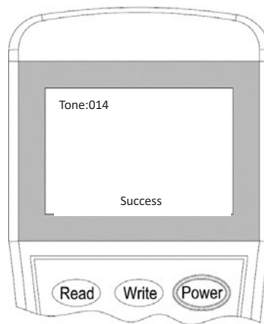

Fig.9 Alarm sound setting
4. Exit the programming tool to the main menu and then press button “4” to set alarm sound type. Input the desire tone type from 1 to 16 and then press “Write” to save the new tone, as shown in Figure 9.